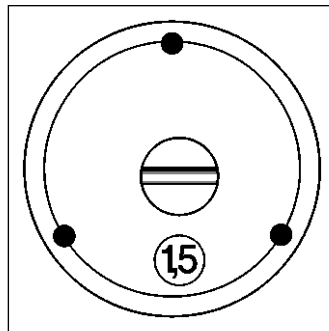

Figure 4: Selecting the lift (except series SK 14 and SK 15)
10. **Setting of the lift (except SK 14, SK 14 short und SK 15):** Open the rear cap of the gun. Behind it there is an adapter screw for adjusting the lift in steps of 0.5 mm (figure 4). **Do not set any in-between values!** Select lift settings according to figure 1.
A frequent fault is a so-called plunging impediment. It occurs whenever the plunging movement of the stud is cut short and the stud comes to a halt above the welding pool (see chart 2, figure 4). In case of only a minor impediment the plunging of the stud may not be stopped, but delayed. In this case a "cold weld" with an incomplete connection may result, without any faults showing on the outside (see chart 2, figure 5). Therefore the final assessment of a weld should never be made on the basis of visual tests alone, without mechanical tests being carried out as well.